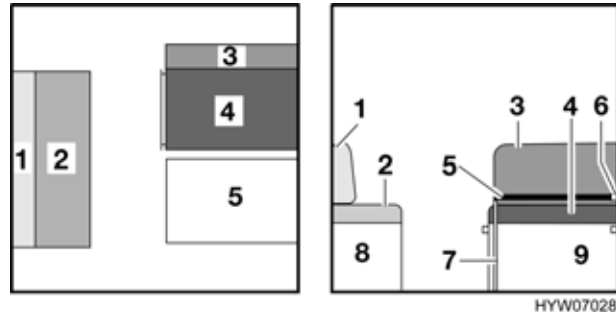

Fig. 82 Prior to conversion
- Remove back cushion (Fig. 82,1) of the divan and lay it aside.
- Lightly lift the front of the table-top (Fig. 82,5).
- Loosen the locking device fitted to the table leg (Fig. 82,7) and fold the table leg against the bottom of the table.
- Lift table-top to an approx. 45° angle and lift it out of the top mounting rail (Fig. 82,6).